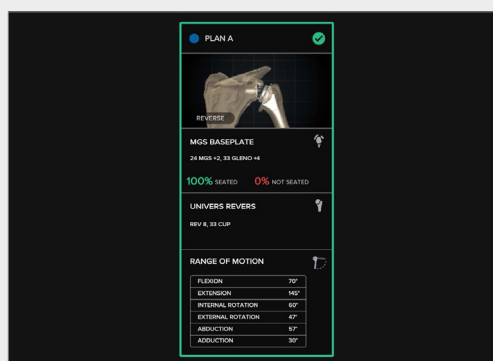

Figure 76. Single Plan Approval page
- Selecting either option will open the plan approval page (Figures 76 and 77), where a comprehensive plan summary is listed for each plan and surgeon users may select up to 2 plans for approval.